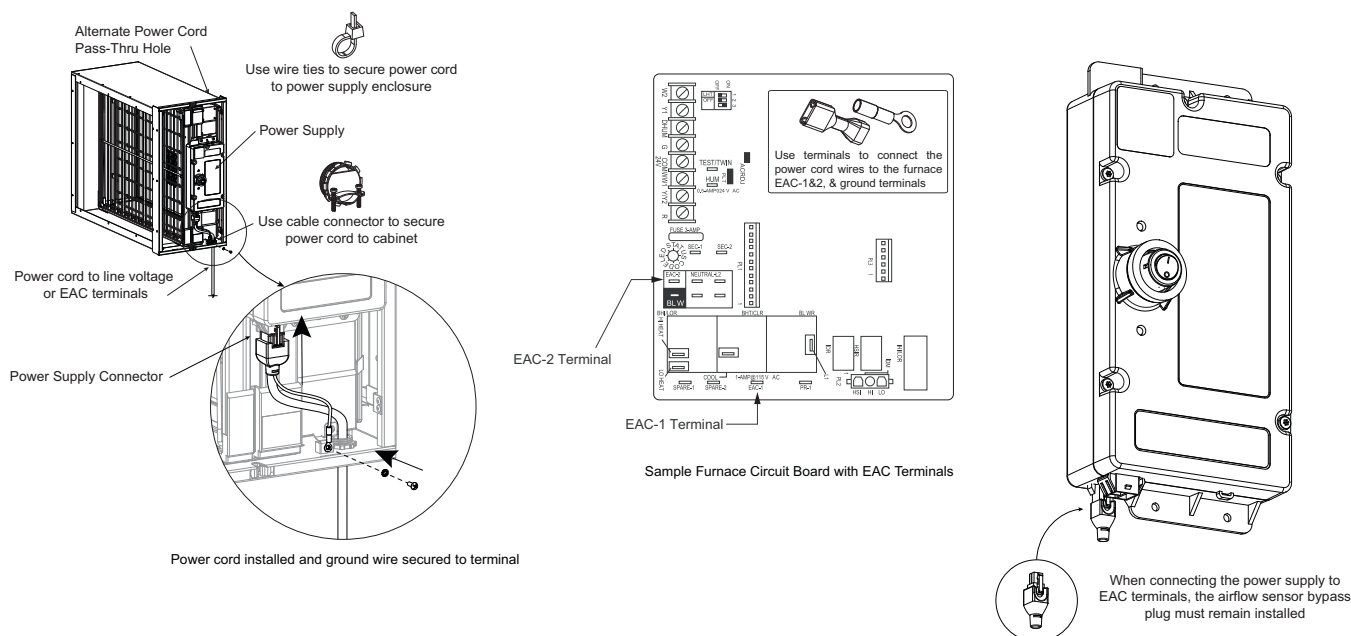

Fig. 9 - Infinity® Air Purifier Electrical Connections
NOTE: The air purifier must only be powered when airflow is present. The furnace control EAC spade connections provide power only when the furnace blower is operating. When connecting to EAC terminals, the airflow sensor bypass plug must be installed for proper operation (see Fig. 9). If EAC connections are not available, contact your local HVAC distributor for alternative options.
- Connect the power cord and airflow sensor bypass plug to the appropriate power supply connectors (see Fig. 9). When connecting the power cord, the green ground wire must be attached to the ground terminal on the cabinet.